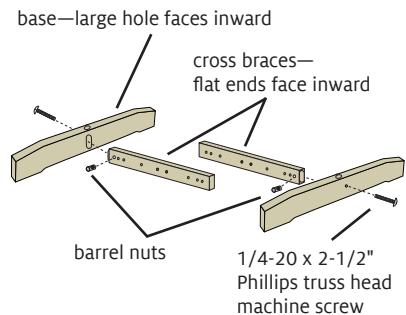

FIGURE 2: ATTACH CROSS BRACES TO BASES
- Orient both bases with the large holes facing each other (Figure 2).
- Orient the cross braces with the flat ends facing inward, as shown in Figure 2.
- Insert a 1/4-20 barrel nut into the hole closest to the tenoned end of a cross brace. Using a 1/4-20 x 2-1/2" Phillips truss head machine screw, attach the base to the cross brace as shown in Figure 2. Repeat with the other base and cross brace.